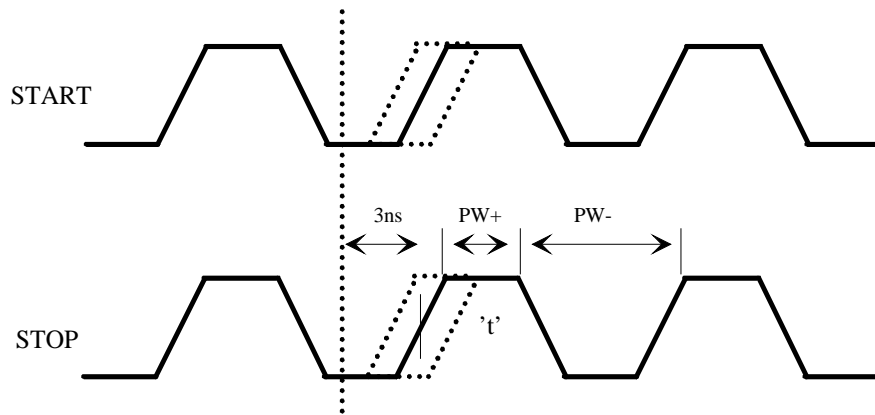

Figure 2-15 Example 3 - Getting Both Positive & Negative Readings
- 2) If in EXT Arm mode, a test setup is configured such that the EXT Arm signal is placed near the edge of the Arm window shown in Figure 2-15.